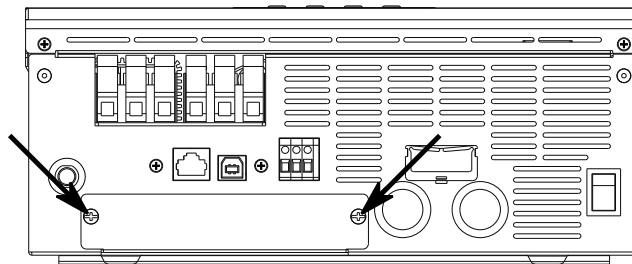

Figure 9: Unscrew parallel board screws
1. Before the kit can be installed, unscrew the two screws shown in Fig. 9. Make sure to keep the screws.
4. Slide the parallel board back into the inverter in the same place where the dummy board was previously installed. Screw it in place with the screws removed in Fig. 9.
Make sure that the minimum distance to walls and other objects is adhered to. Equally, during the installation of multiple inverters make sure the minimum distance between each inverter is at least 20 cm to the side and the inverters are mounted in a horizontal line. Furthermore, no objects may be closer than 50 cm above or below the inverter as shown in Fig. 9 to ensure adequate ventilation.